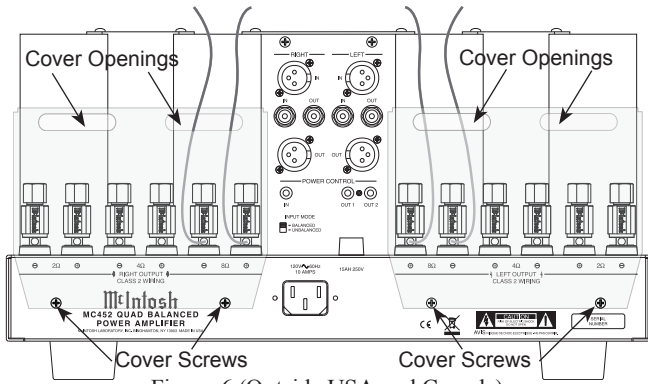

Figure 6 (Outside USA and Canada)
9. Locate the Terminal Connections Covers from the inside of the MC452 shipping carton. Insert the just prepared Loudspeaker hookup cables thru the cover openings, one cover for each channel. Refer to figure 6.
Note: The illustration in Figure 6 is connections for 8Ω (ohms) Loudspeakers.
11. Attach the Terminal Connections Covers to the MC452 Rear Panel with the previously removed Screws. Refer to figure 6.